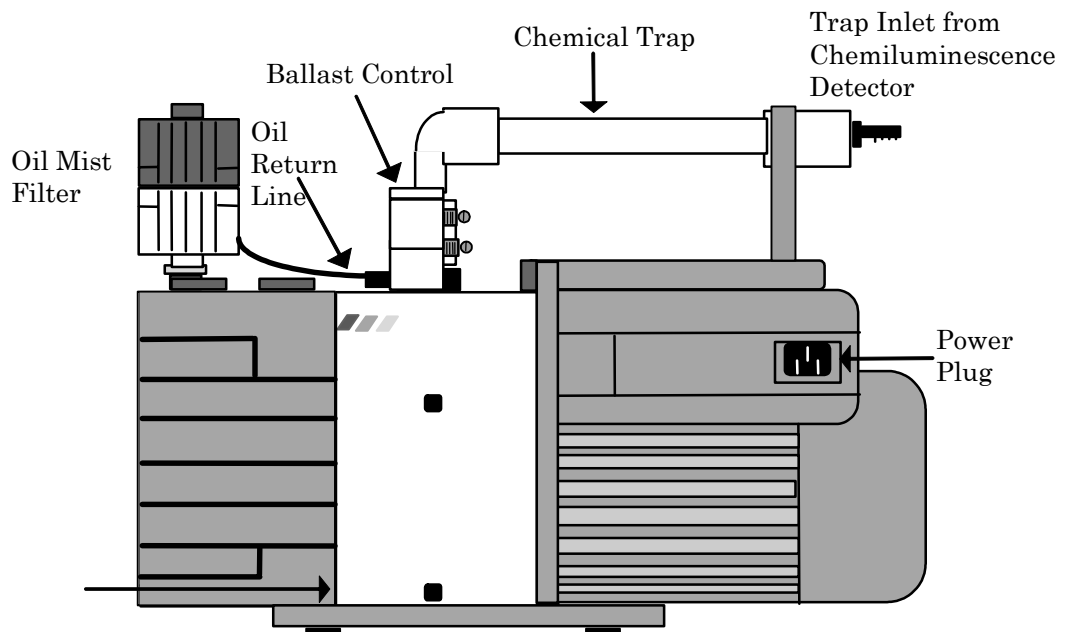

Figure 2 RV-5 Oil-Sealed Vacuum Pump (Back Side)
16. Position the oil mist filter so the drain adapter points toward the gas ballast inlet (Figure 2).
32. To connect the vacuum line from the detector to the assembled vacuum pump, place a hose clamp over the non-heat shrink end of the vacuum line. Connect the vacuum hose to *the straight end of the Ozone Destruction Chemical Trap*. Secure with the clamp (Figure 2).